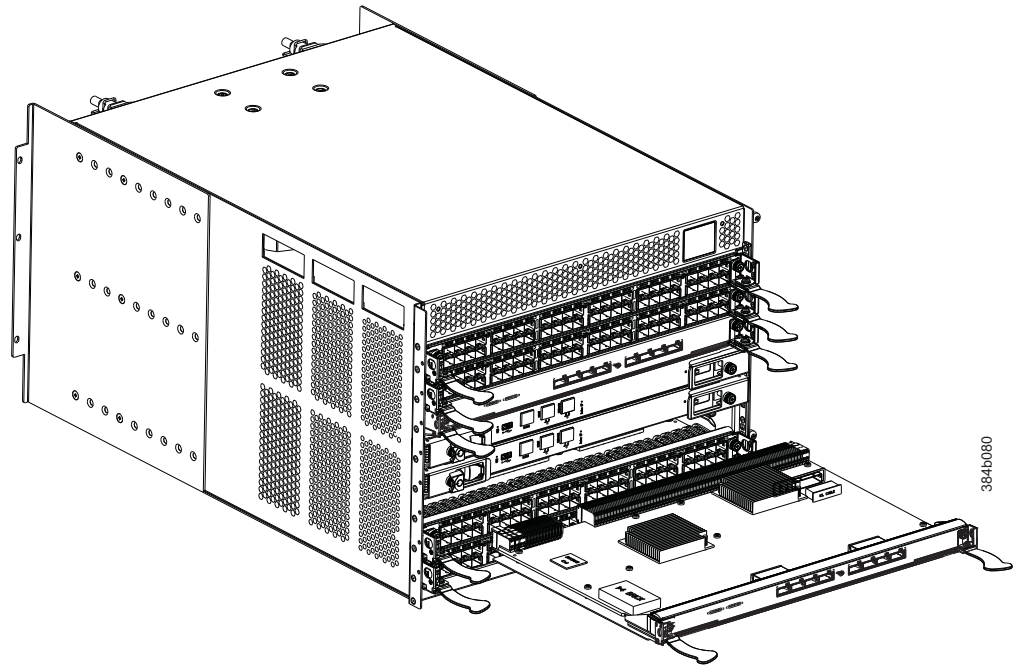

Figure 32. Removing and replacing the core switch blade
This section describes how to remove and install a core switch blade. The SAN384B-2 has two core switch blades: one in slot 3 and one in slot 6. Note that the blade shown in Figure 32 on page 79 is shown with EMI plugs installed.
4. Open the ejectors by rotating them toward the center of the blade face. Pull the blade out of the chassis using the ejectors (Figure 32 on page 79).